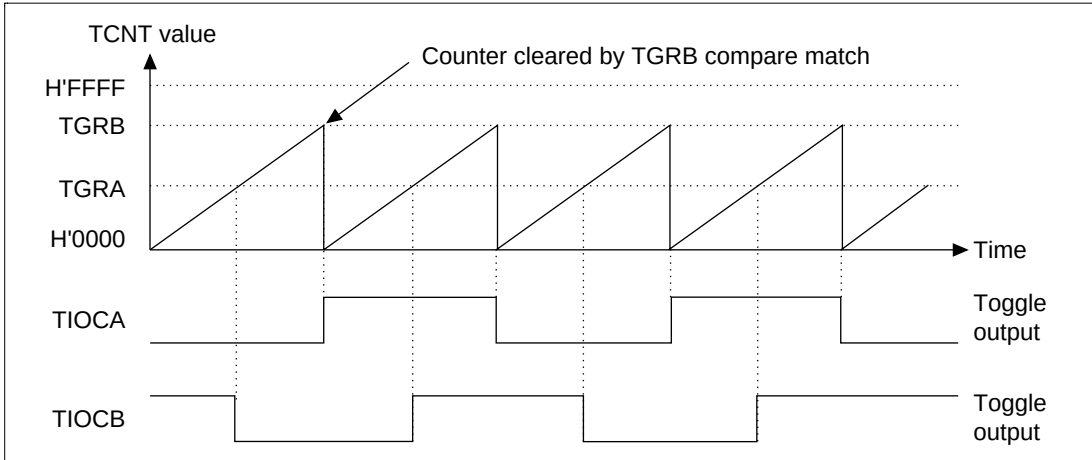

**Figure 12.12 Example of Toggle Output**
**Waveform Output Operation (Toggle Output):** Figure 12.12 shows the toggle output. In the example, the TCNT operates as a periodic counter cleared by compare-match B, with toggle output at both compare-match A and compare-match B.